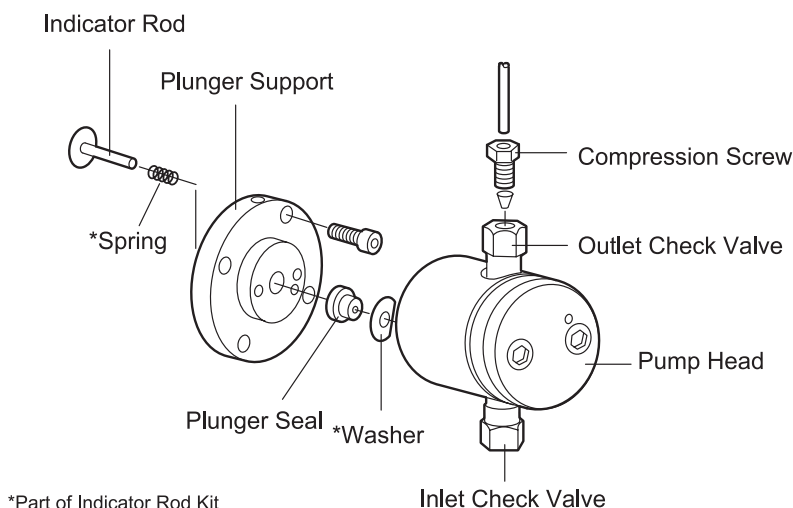

Figure 4-5 Pump Head Assembly
Figure 4-5 is an exploded diagram of a pump head. For a list of replacement parts, see Appendix A, Spare Parts.
7. Turn on the pump and set flow rate to 0.3 mL/min. The indicator rod (see Figure 4-5) should move freely.
5. Gently slide the pump head onto the plunger and alternately tighten the two screws (see Figure 4-5).